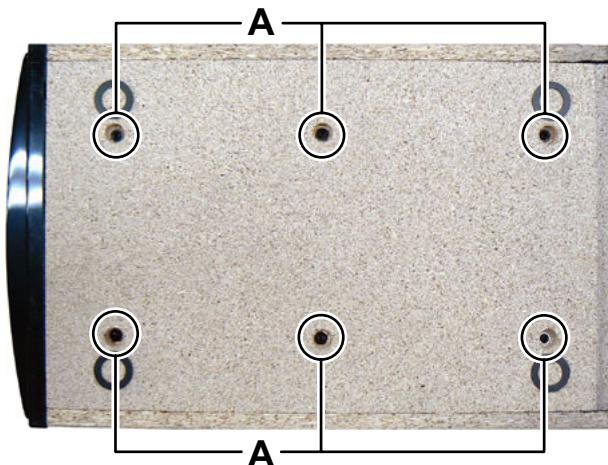

Fig.1
#### 3.2.1 Removing the Power amp unit (See Fig.1, 2, 3)
(1) Remove the six screws **A** attaching the Power amp unit. (See Fig.1)